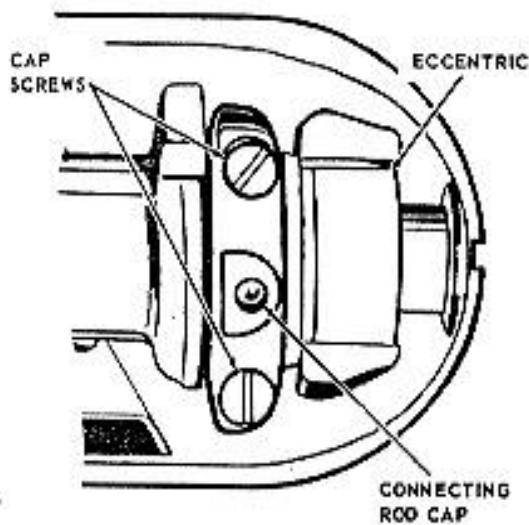

Fig. 44. Removing Feed Connecting Rod
2. Remove two cap screws, Fig. 44, and remove connecting rod cap.
1. Insert connecting rod into upright arm through bottom of machine, so that it fits around bottom half of pulley (or gear) hub on eccentric, Fig. 44.
1. Insert feed forked connection into upright arm through bottom of machine, so that it fits around eccentric, as shown in fig. 44.